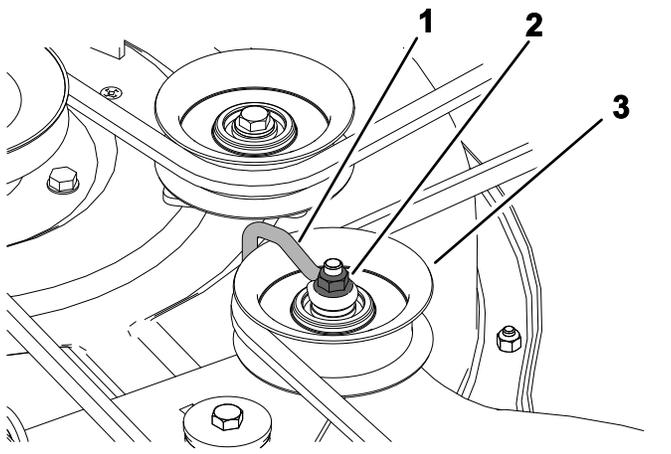

Figure 56
2. Screw (3)
6. Loosen the nut securing the wire form to the idler pulley (Figure 56).
- Note:** Position the wire form against the idler arm as shown in Figure 56.